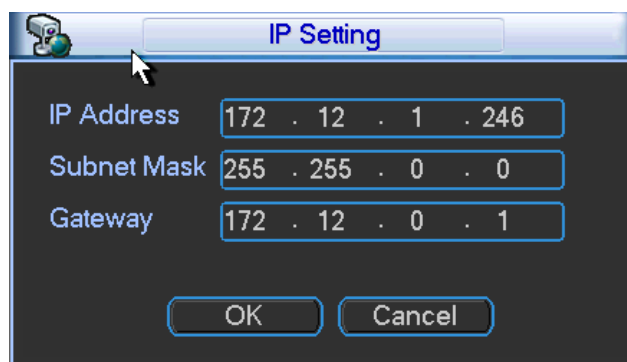

Figure 3-83
- Edit: Click Edit button  you can go to Figure 3-83. Here you can change the searched IP address. Please note this function is for IP from private manufacturer.